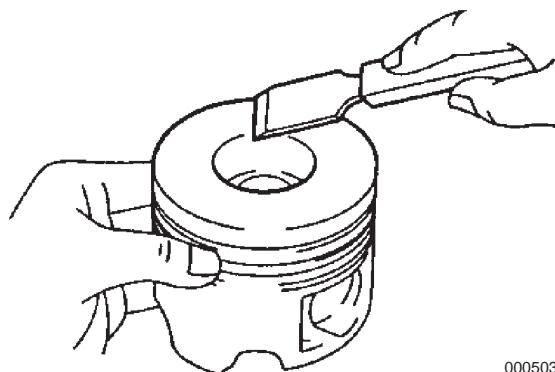

Figure 5-111
1. Clean the carbon deposits off the piston top using a scraper (Figure 5-111).